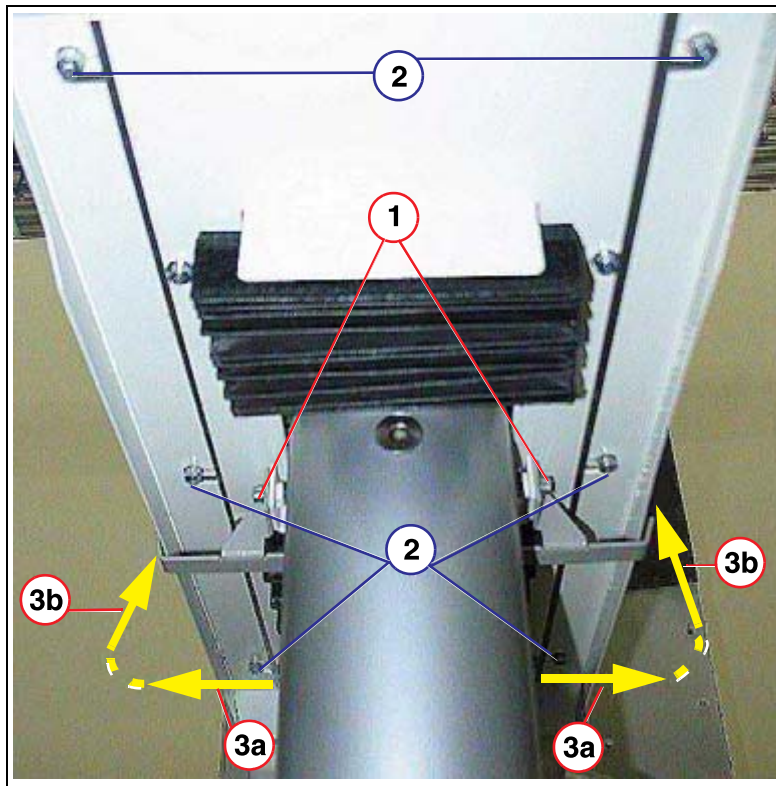
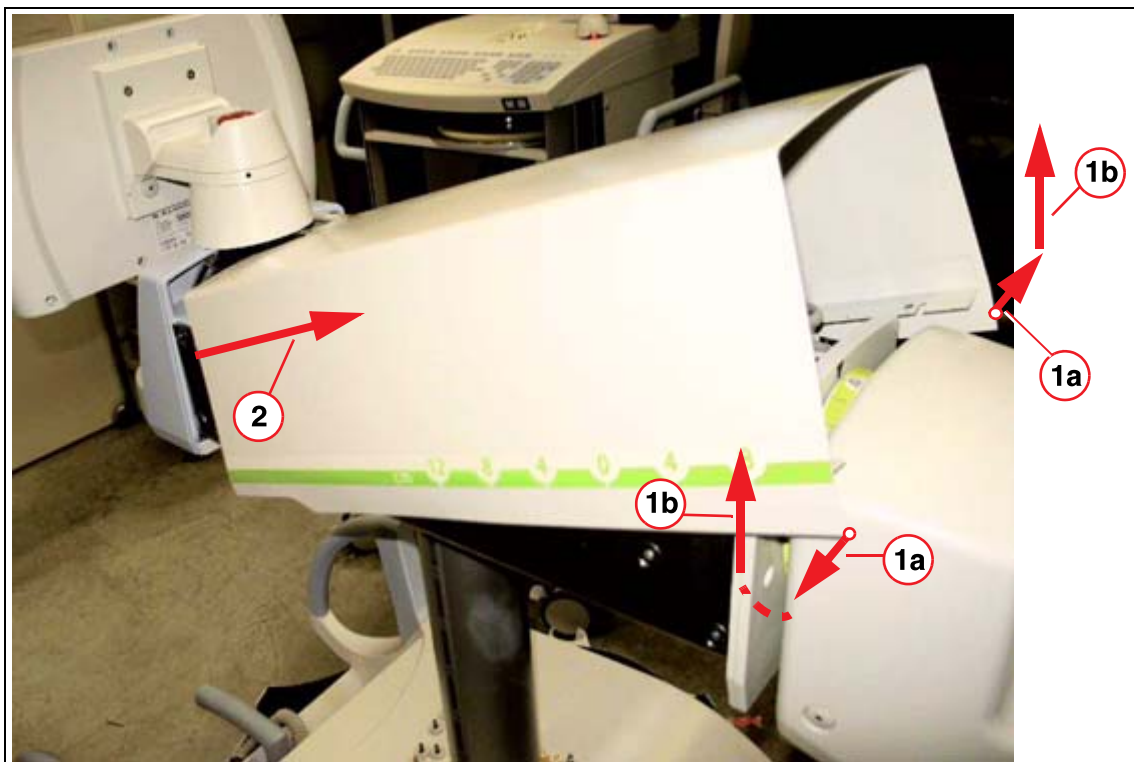

Fig. 4: cover_1
Fig. 5: Cover_2
1. Unscrew the 2 screws (1/Fig. 4 / p. 21).
2. Unscrew the 6 screws (2/Fig. 4 / p. 21).
3. Expand the cover at the end (3a/Fig. 4 / p. 21) (1a/Fig. 5 / p. 22) and pull the cover upward (3b/Fig. 4 / p. 21) (1b/Fig. 5 / p. 22).
4. Pull out the cover as shown in (2/Fig. 5 / p. 22).